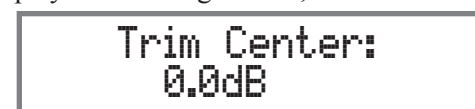

Figure 64
1. Press the TRIM Push-button until the desired Loudspeaker name appears on the Front Panel Display. Refer to figures 64, 65 and 66.